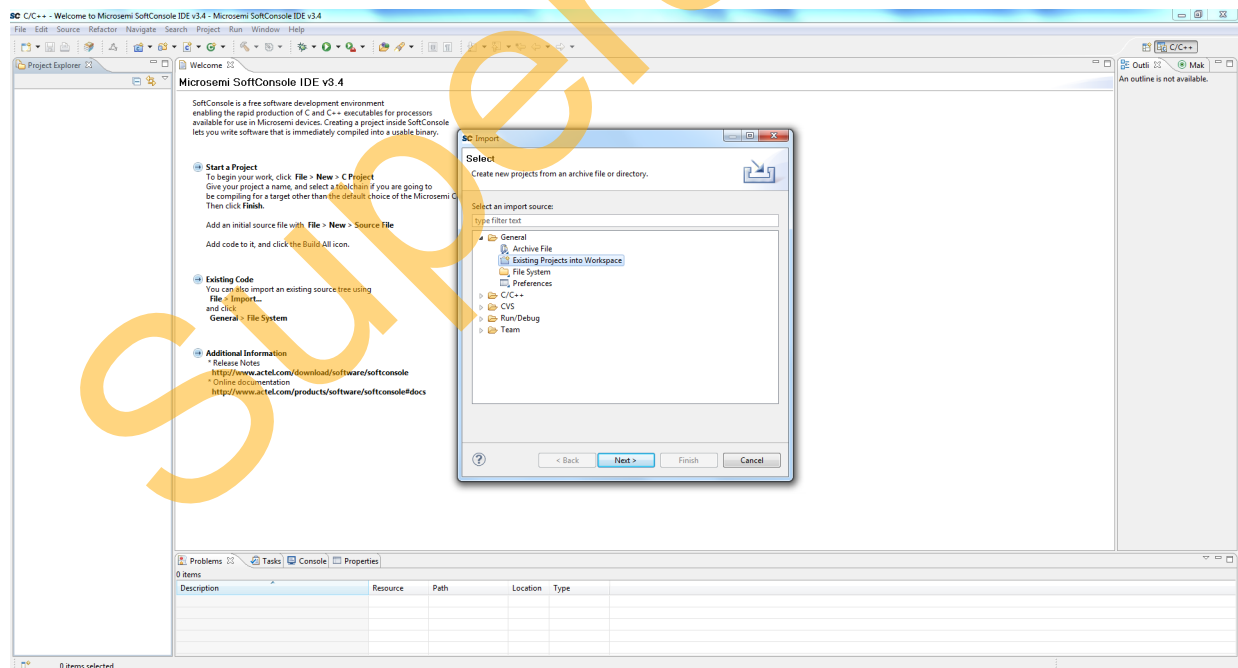

Figure 31 • SoftConsole IDE - General
3. Select **General > Existing Projects into Workspace** as shown in Figure 31.